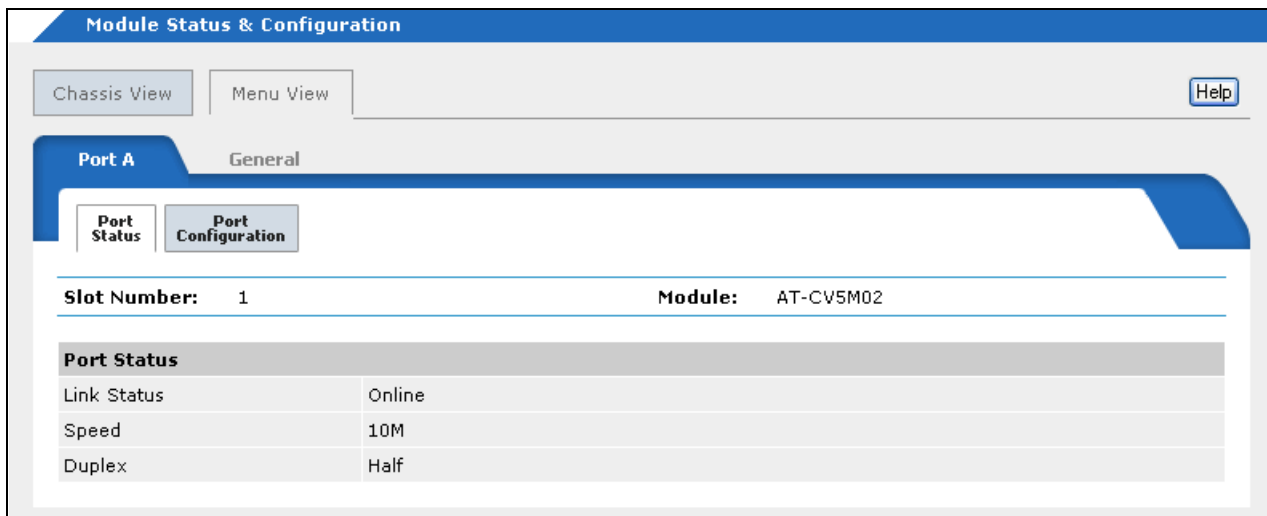

Figure 37. Port A Tab for the Management Card
- In the Chassis View, click the 10/100Base-TX port on the management card. Alternatively, select the Menu View tab and click the name of the management card. The Port A tab for the management card is shown in Figure 37.
2. In the Chassis View, click the 10/100Base-TX port on the AT-CV5M02 Management Card. Alternatively, select the Menu View tab and click the name of the management card. The Port A tab for the management card is shown in Figure 37 on page 110.